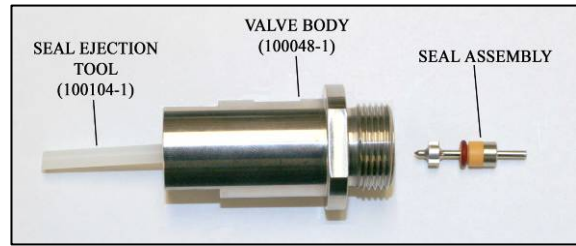

Figure 4
- Place the Seal Ejection Tool (100104-1) against the Poppet tip and push out the Poppet and Seal assembly. Discard the Poppet and Seal assembly. **See Figure 4.**